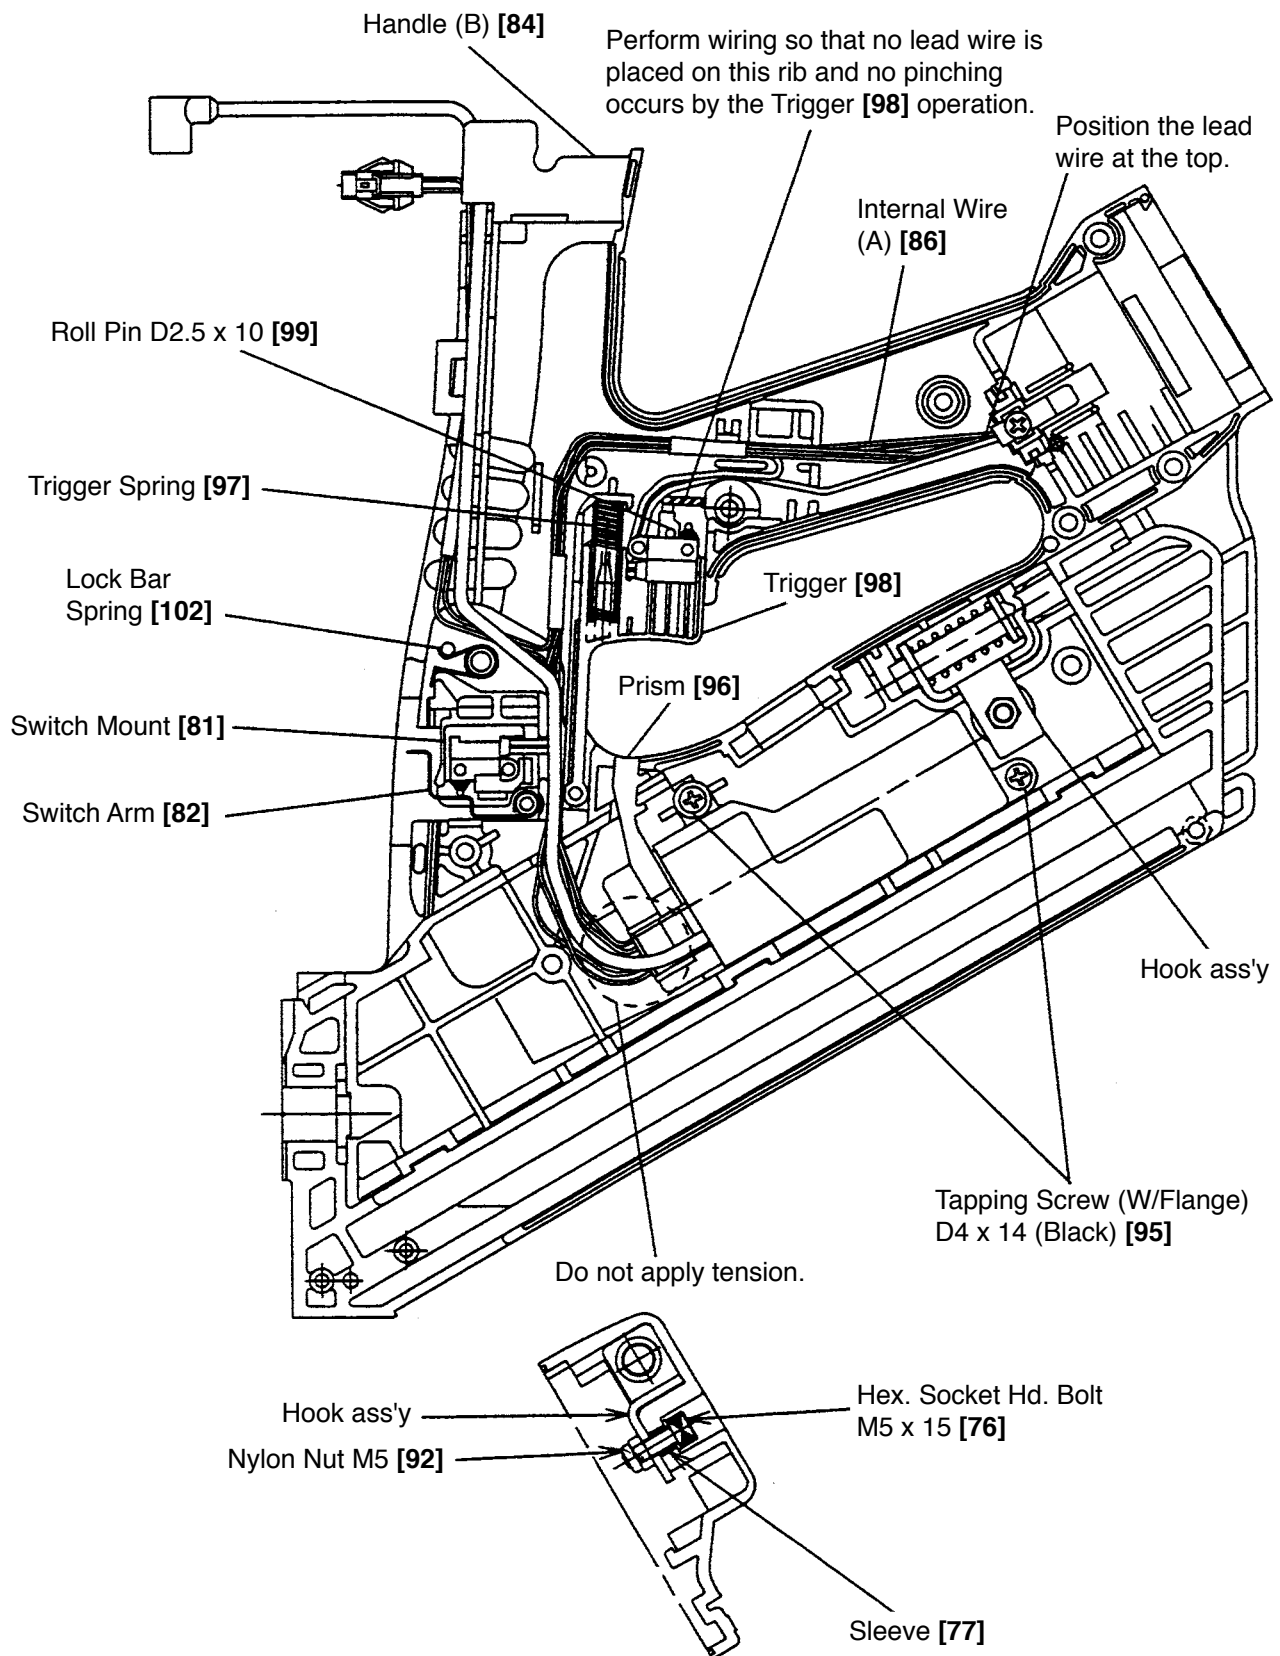

Fig. 56
- Perform wiring of the Controller [101] and Internal Wire (A) [86] as shown in Fig. 56. Position the other parts as shown in Fig. 56. Do not apply tension to the high-voltage cable of the Controller [101] and the connector of Internal Wire (A) [86] (Fig. 56).